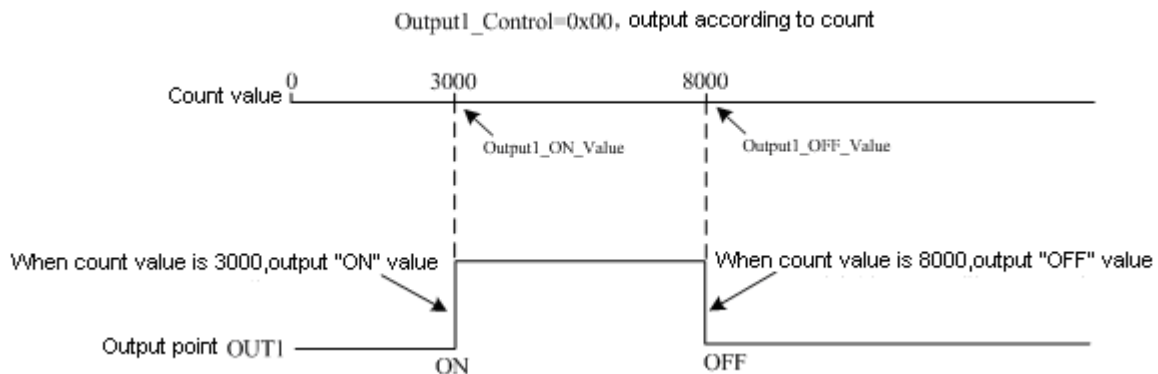
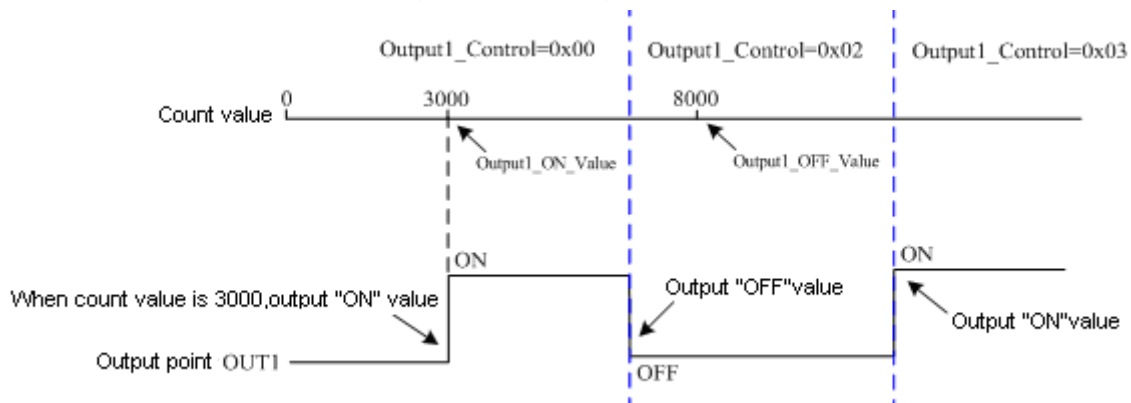

Figure 10.67: Sequence diagram of output OUT1 according to count
Figure 10.68: Sequence diagram of output OUT1 after output is forcibly modified
- Take the first output point OUT1 of counter 1 for example, if “Output1_Control” = 0x00 (output according to count), “Output1_ON_Value” = 3000, “Output1_OFF_Value” = 8000, the output state of the output point OUT1 will be as shown in Figure 10.67. If “Output1_Control” = 0x02 (modify output value of OUT1 to OFF) or = 0x03 (modify output value of OUT1 to ON), “Output1_ON_Value” = 3000, “Output1_OFF_Value” = 8000, the output state of the output point OUT1 will be as shown in Figure 10.68.